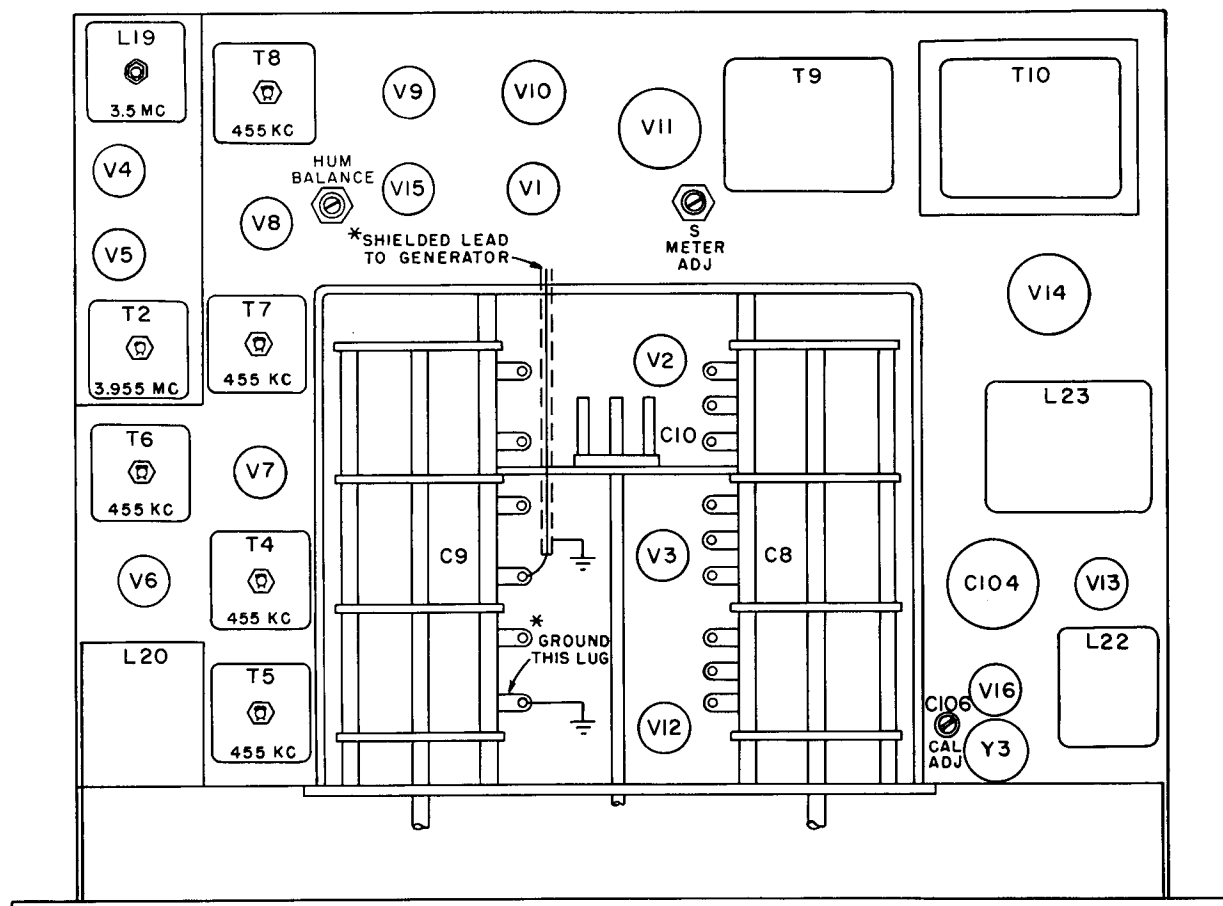

Figure 4-2. Receiver Chassis, Top View
b. As shown in Figure 4-2, ground one lug of main tuning capacitor and connect output lead from hf signal generator to other.
b. As shown in Figure 4-2, ground one lug of main tuning capacitor and connect output lead from signal generator to other.
c. In order, adjust i-f transformers T8, T7, T6, coil L20, and i-f transformers T5 and T4 (Figures 4-2 and 4-4) for maximum reading on vtvm.
- b. Adjust coil L19 (Figure 4-2) until some deflection of vtvm is noted.
d. In order, adjust i-f transformers T3 and T2 (Figures 4-2 and 4-4) for maximum deflection
4-22 To adjust HUM BALANCE control R94 (Figure 4-2) proceed as follows:
- e. Adjust S METER ADJ control on top of receiver chassis (Figure 4-2) for S-meter reading of S-9.